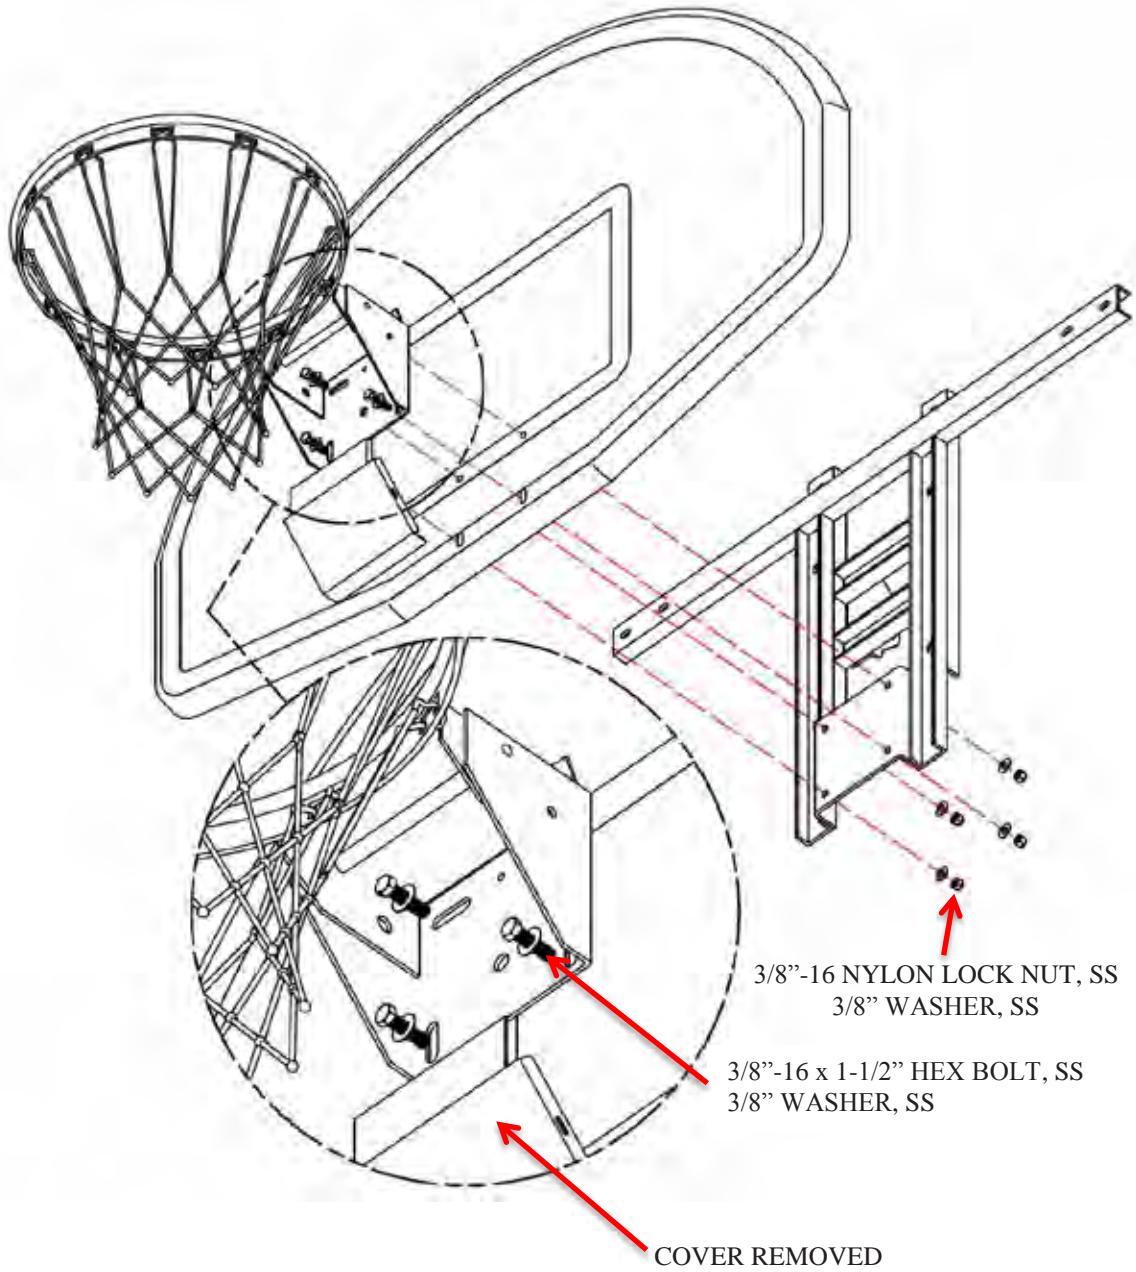
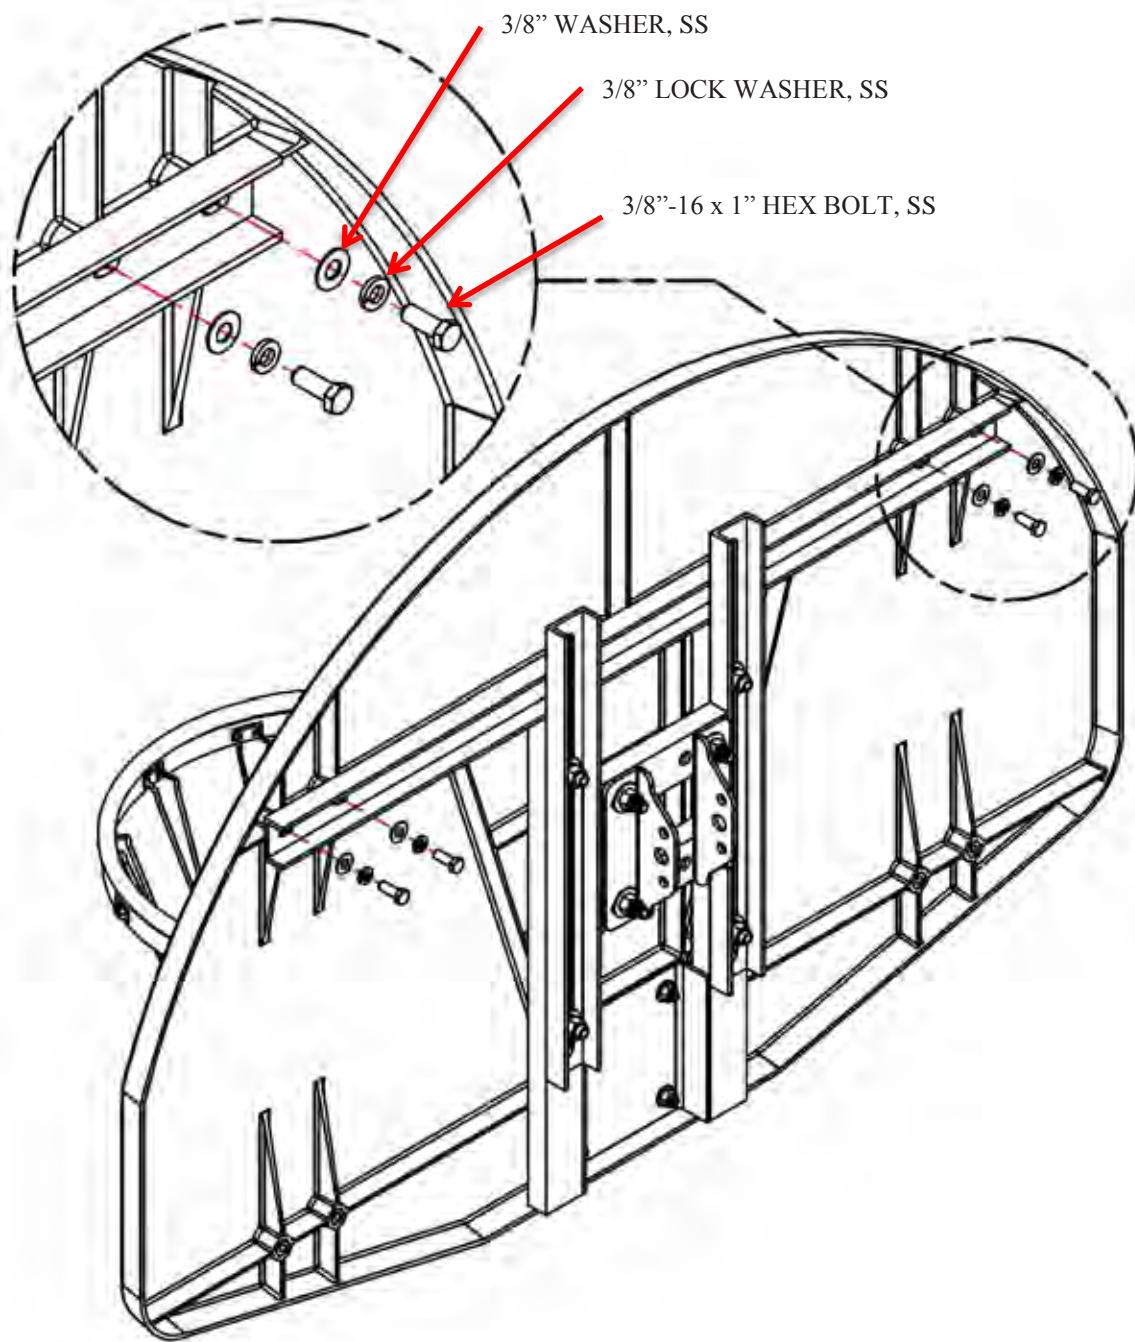

Figure 7
Figure 8
1. Attach the T-Frame to the Fan backboard with 3/8" hardware as shown (*Figure 7 & Figure 8*).